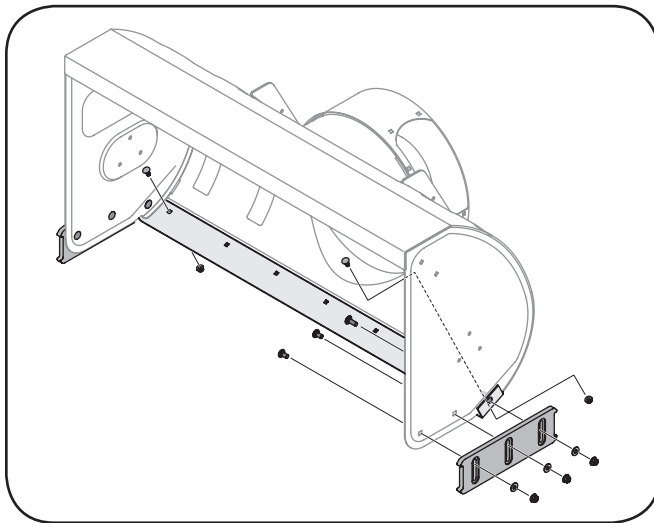

Figure 6-3
1. Remove the six carriage bolts, flat washers and hex nuts that secure the two skid shoes to the sides of the auger housing. Refer to Figure 6-3.
1. Remove the hex nuts and carriage bolts that secure the shave plate to the bottom of the housing. See Figure 6-3.